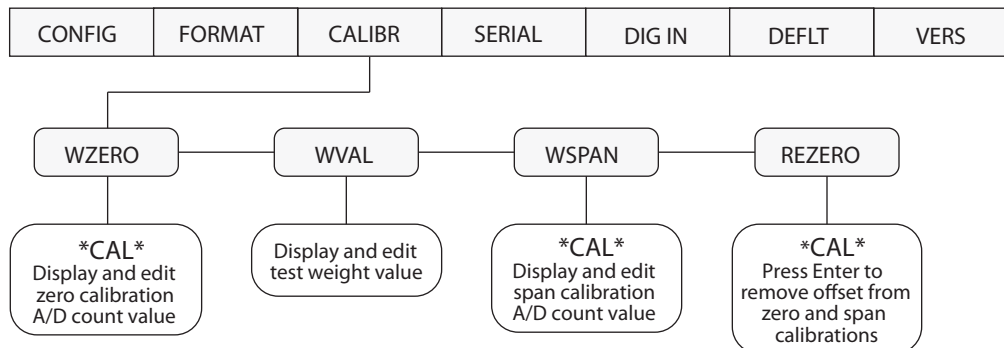

Figure 4-1. Calibration (CALIBR) Menu
2. Press the **RIGHT (UNITS)** button until the display reads **CALIBR** (see Figure 4-1). Press **ENTER (ZERO)** to go to zero calibration (**WZERO**).